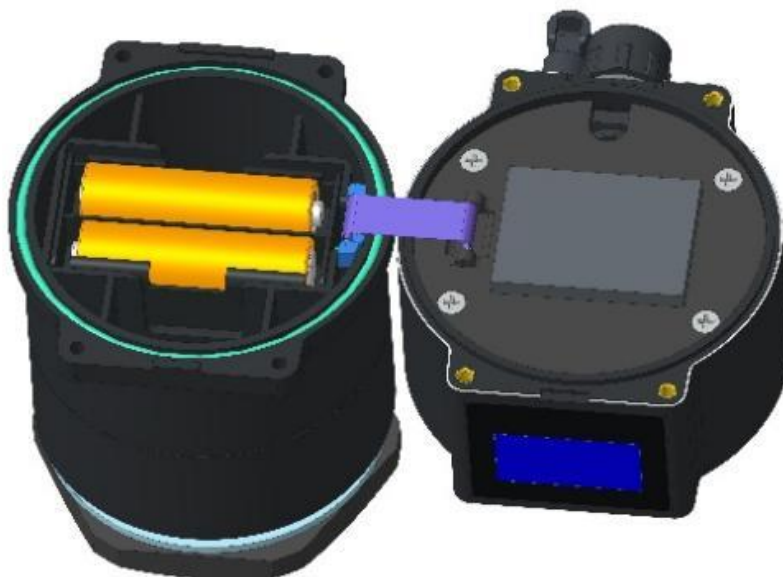

Figure 1. Open the battery compartment.
The LSR-803 series sensor may be powered by four (4) AA alkaline batteries if not being used in a 24 VDC powered format from a controller. It is very important that you do not use rechargeable nickel cadmium (NiCad) or lithium batteries. Typical AA alkaline battery life after replacement is approximately 6 based on data logging/measurement frequency of once per hour as programmed by the user in the uPyxis APP. When using AA batteries, it is important to never program the sensor for continuous measurement. If this is done, battery life will be greatly diminished to about 3 weeks. Please refer to the LSR-803/803L battery compartment as shown in Figure 1.